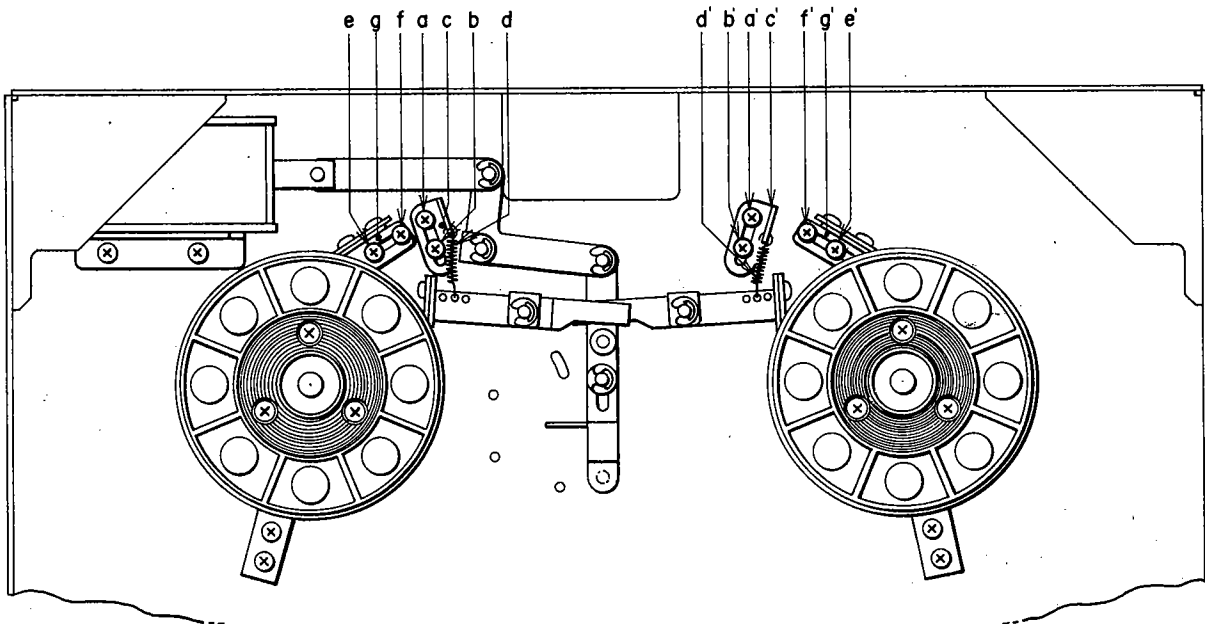

Fig. 10
- 2) Brake tension adjustment methods are as follows: (Refer to Fig. 10)